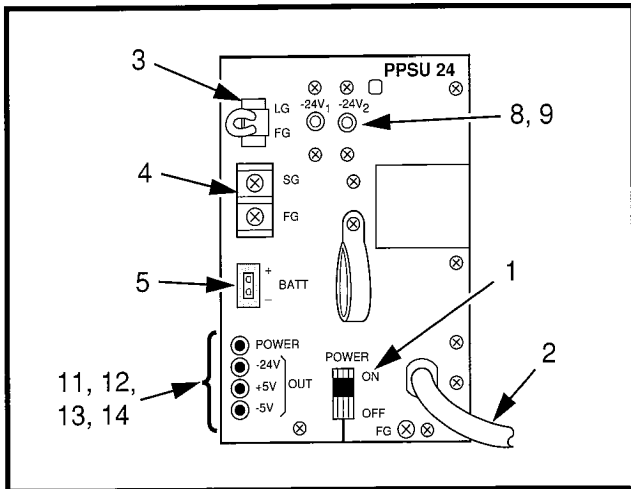
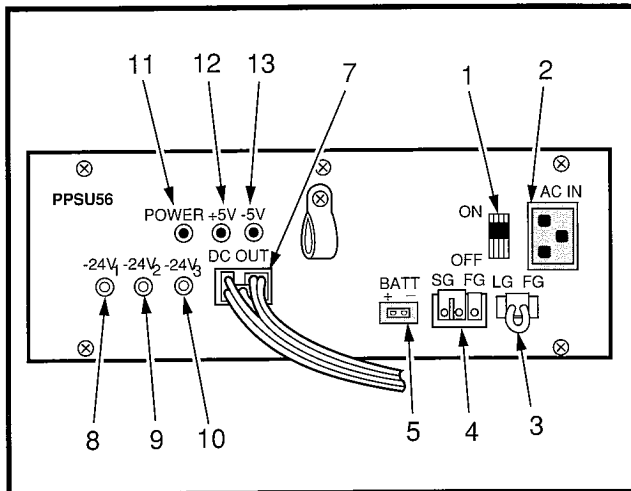
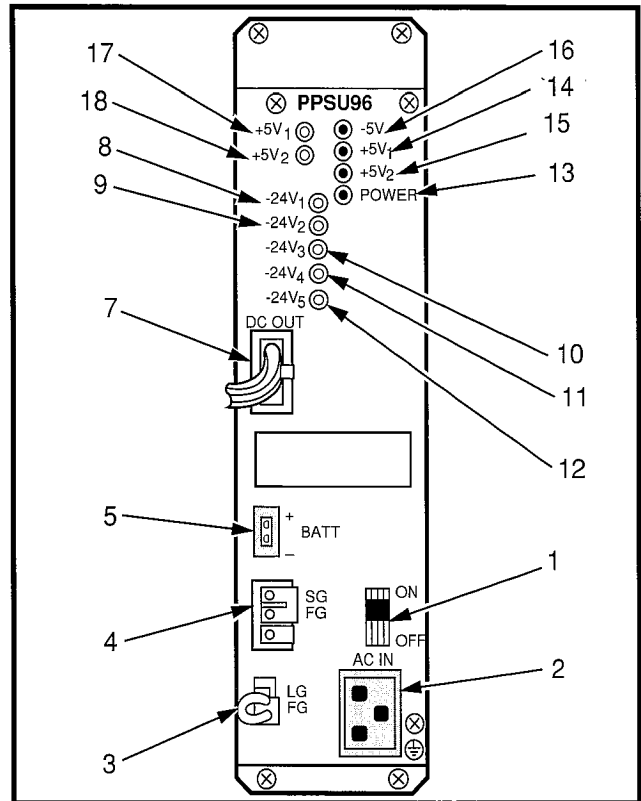
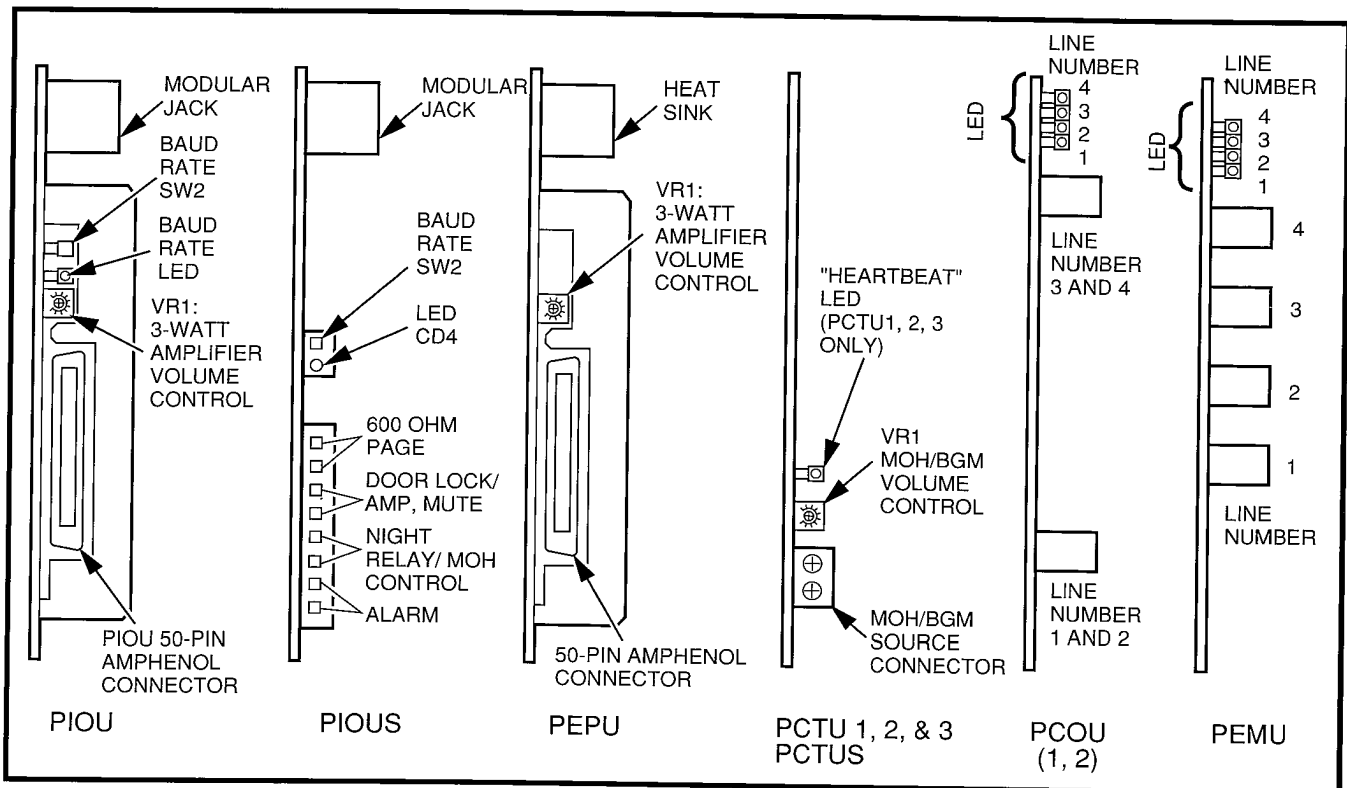

FIGURE 2-11—LOCATION OF DK24 CONTROLS AND INDICATORS
FIGURE 2-12—LOCATION OF DK56 CONTROLS AND INDICATORS
FIGURE 2-13—LOCATION OF DK96 CONTROLS AND INDICATORS
FIGURE 2-14—LOCATION OF PCB CONTROLS AND INDICATORS
7.01 Controls and indicators for the DK24 model are shown in Figure 2-11 and described in Table 2-D; for DK56, see Figure 2-12 and Table 2-E, and for DK96, see Figure 2-13 and Table 2-F. PCB controls and indicators are shown in Figure 2-14 and described in Table 2-G.